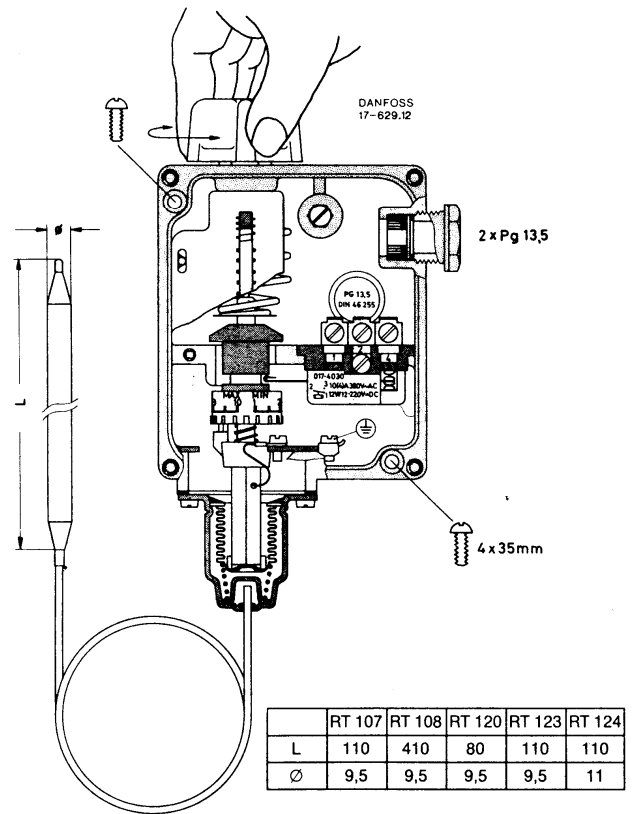

Fig. 5
3.5.2 DANFOSS RT 124 THERMOSTAT (Fig. 5)